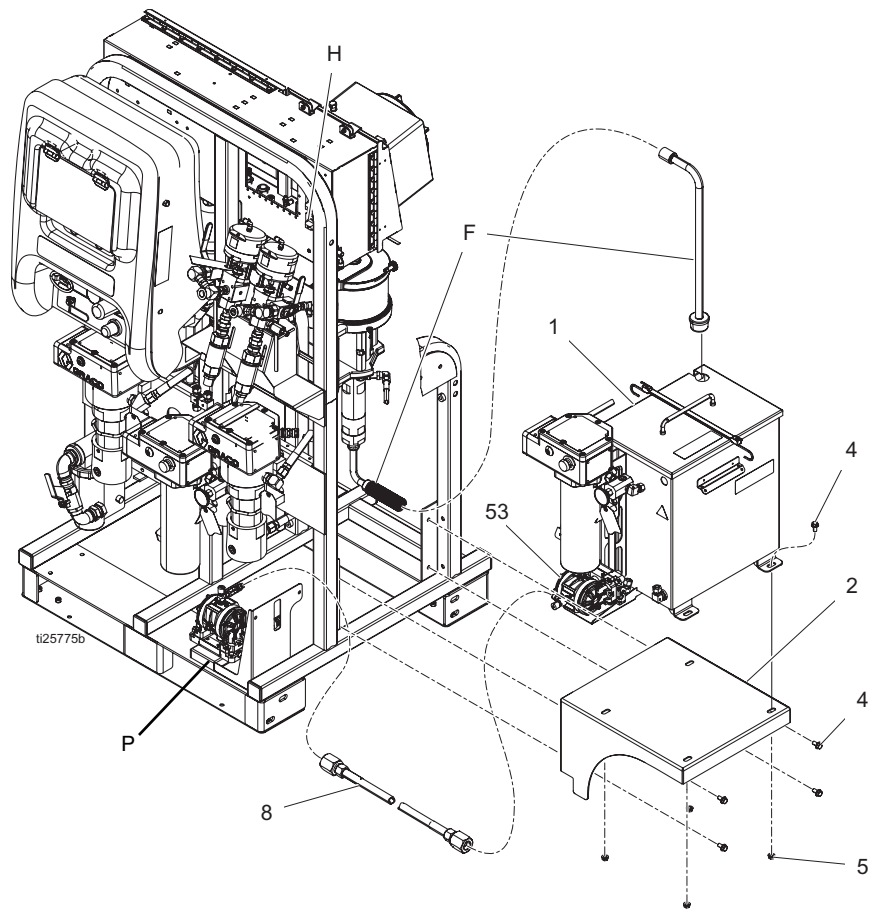
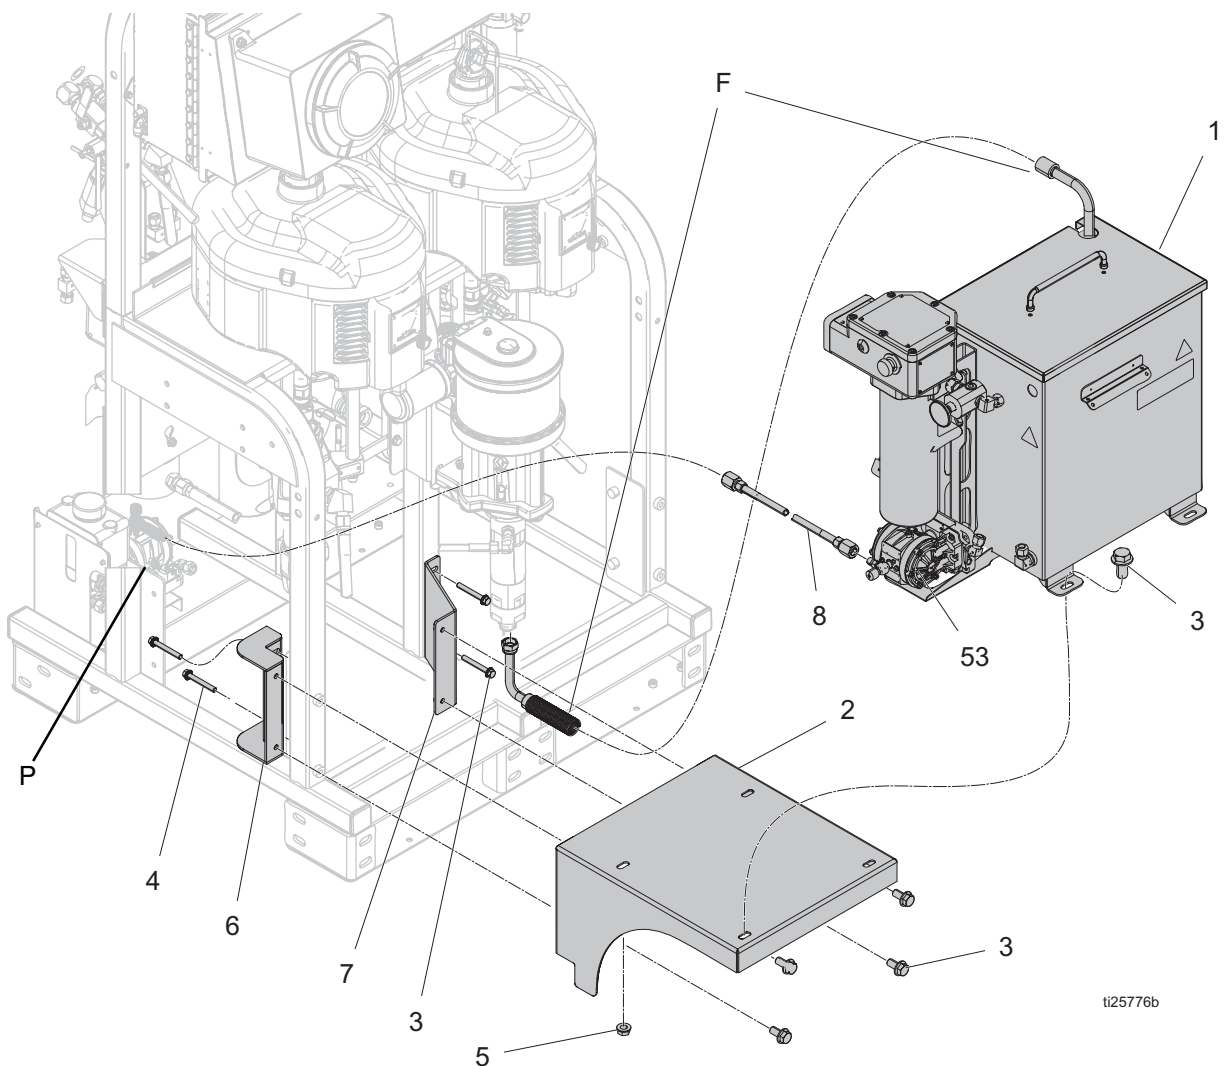

FIG. 3: Optional Location 1
FIG. 4: Optional Location 2
See FIG. 1 on page 5 and FIG. 3.
See FIG. 1 on page 5 and FIG. 4 on page 7.
- a. Remove cap (11).
4. Connect air hose (8) to circulation pump (53) and diaphragm pump (P) on the PFP system. See FIG. 3 on page 6 or FIG. 4 on page 7.